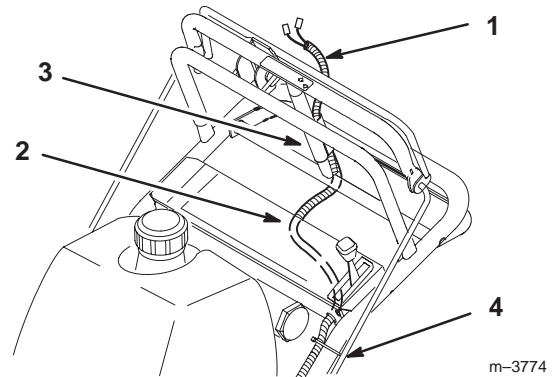

Figure 4
4. Route wire harness inside of frame, along left handle and over throttle cable. Compress wire harness covering and press into lower and upper holes in rear of control panel (Fig. 4).
5. Thread harness up through rear tube of traction handle (Fig. 4).
8. Secure wire harness and throttle cable to left handle, away from PTO lever, with wire tie (Fig. 4).